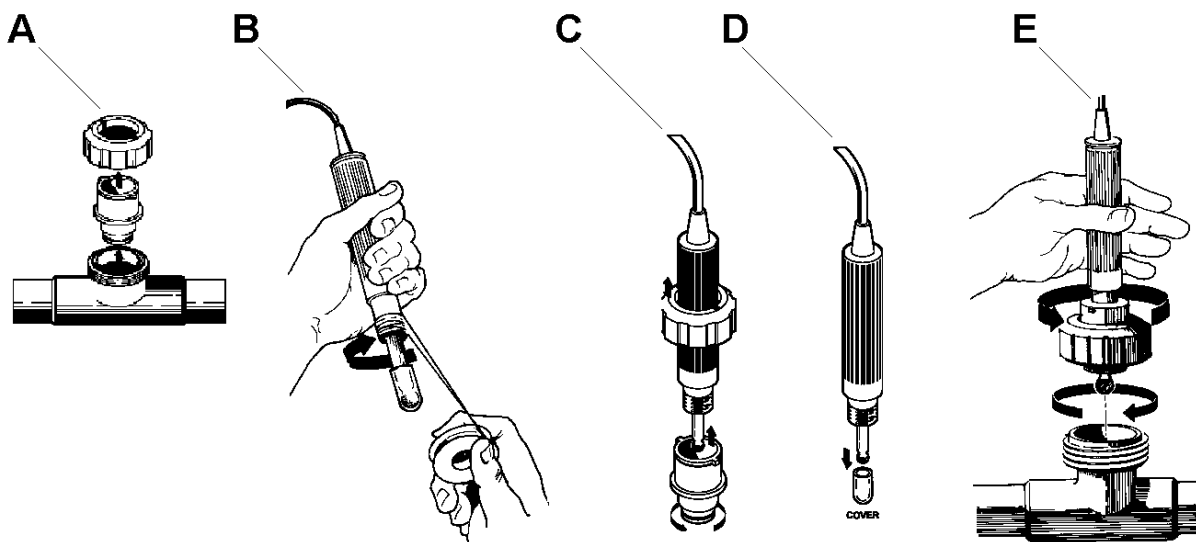

Figure 3
4. Remove coupling nut(s) from sensor housings on flow assembly. Then remove threaded insert(s) by gently pulling straight out (see *Figure 3-A*). Insert is held in place by rubber “O” ring.
5. Apply six wraps of teflon tape to threads of sensors (see *Figure 3-B*).
- b) Use supplied cover filled with proper storage solution. (see *Figure 3-D*). See *Section 10 - Maintenance* for more information
7. Slip coupling nut over sensor, then hand tighten threaded insert on the teflon wrapped threads of sensor. (*Figure 3-C*)
8. Gently install sensor into sensor housing on flow assembly. Make sure sensor is firmly seated in housing. (*Figure 3-E*)